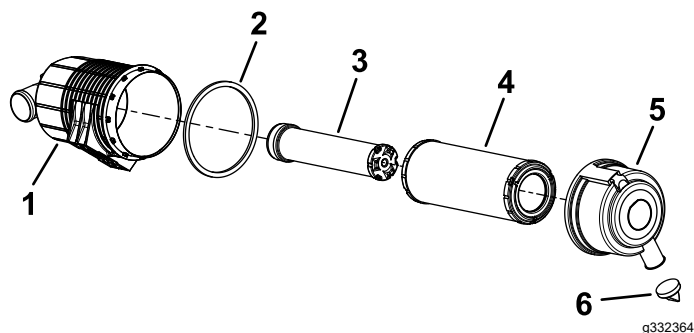

Figure 35
5. Service the air-cleaner filter and safety element when alerted (Figure 35).